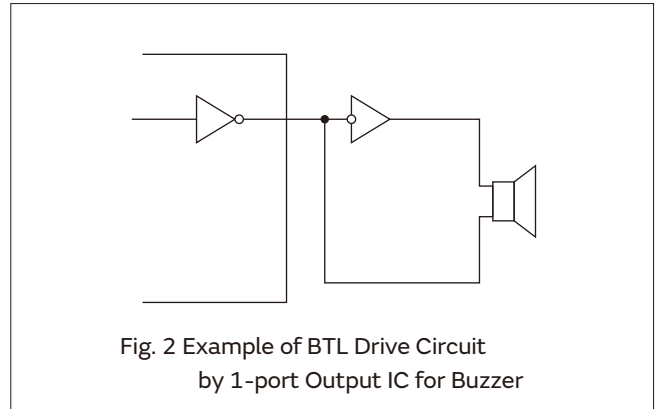

Fig. 2 Example of BTL Drive Circuit
(2) In a case that is driven by IC directly like as Fig. 2, input voltage of Piezoelectric sound components should be twice as high because of the BTL (Bridge Tied Load) drive circuit, which includes an inverter.
When the piezoelectric diaphragm oscillates freely in air, the node does not move as shown in Fig. 1. With this point held with a measuring terminal, the resonant frequency ( $f_0$ ) and resonant impedance ( $R_0$ ) are measured in the constant-current circuit as shown in Fig. 2.